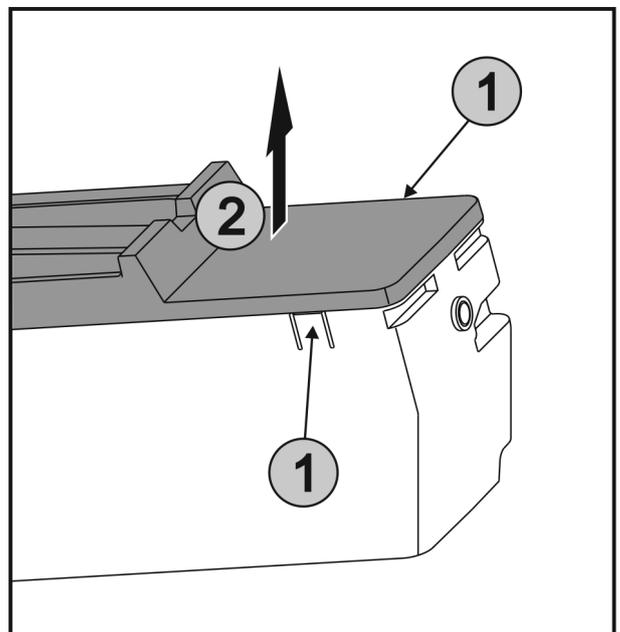

Fig. 51
- ▶ Press the lugs Fig. 51 (1) on both sides of the EasyTwist-Ice simultaneously and take off the lid Fig. 51 (2) to the top.